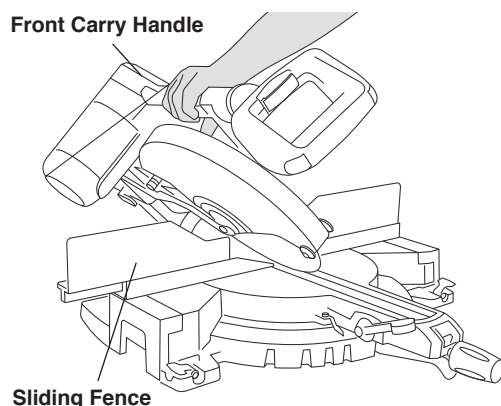

Figure 34.
- Extend left sliding fence to clear saw assembly and re-lock (Figure 34).
- Grasp the front carry handle with right hand and tilt saw head to angle desired (Figure 34).
- Standing on right side of saw, grasp the front carrying handle with right hand and tilt saw head slightly to the left while rotating the bevel range selector knob with left hand to "0-45° Right" (Figure 34).
- Move left or right sliding fence to clear saw assembly and re-lock (Figure 34).
- Standing on right side of saw, grasp the front carrying handle with right hand and tilt saw head slightly to the left while rotating the bevel range selector knob with left hand to "Max Range" (Figure 34).